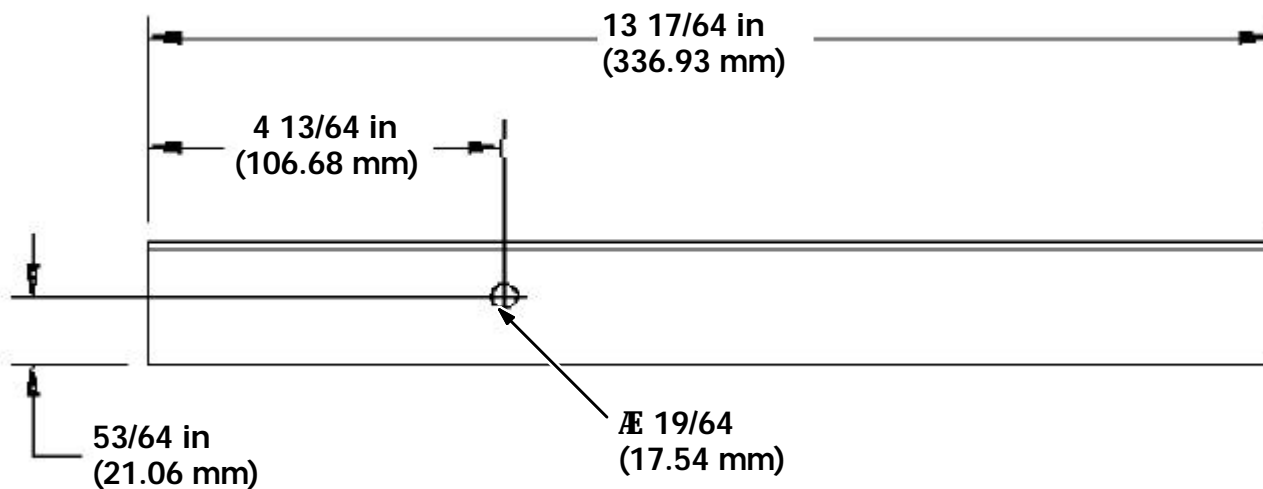

FIG. 4 - HOLE LOCATION FOR 382122
6. Mark and drill a 19/64 (7.54 mm) hole in the support angle according to the dimensions in figure 4. (Refer to FIG. 4)